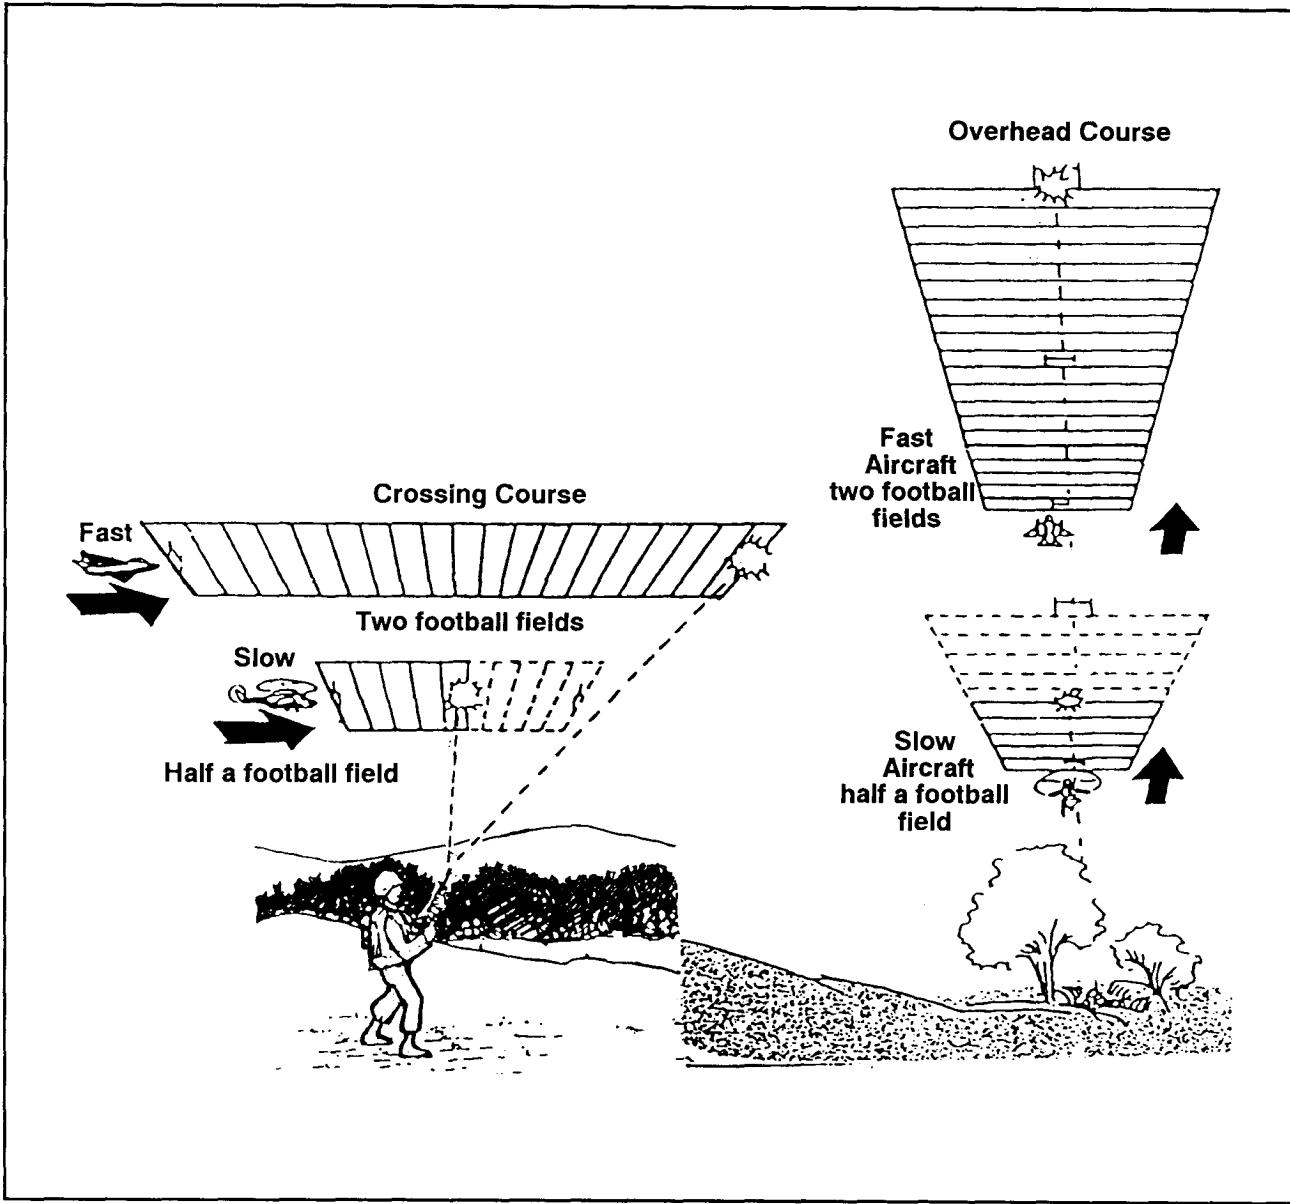

Figure C-1. Football-field technique.
(1) The first technique is the **football-field technique** (Figure C-1, page C-2). When engaging high-performance aircraft (those flying in excess of 200 miles per hour), automatic riflemen should apply a one-football-field lead in front of the target and fire at the rapid rate until the target passes through the tracer stream. If the target is a low-performance aircraft, such as a helicopter, with a speed of 200 miles per hour or less, automatic riflemen should apply half a football-field lead in front of the target, firing the cyclic rate. With all soldiers firing, a curtain of fire is formed because of slight differences in each soldier's estimate of the distance and lead.